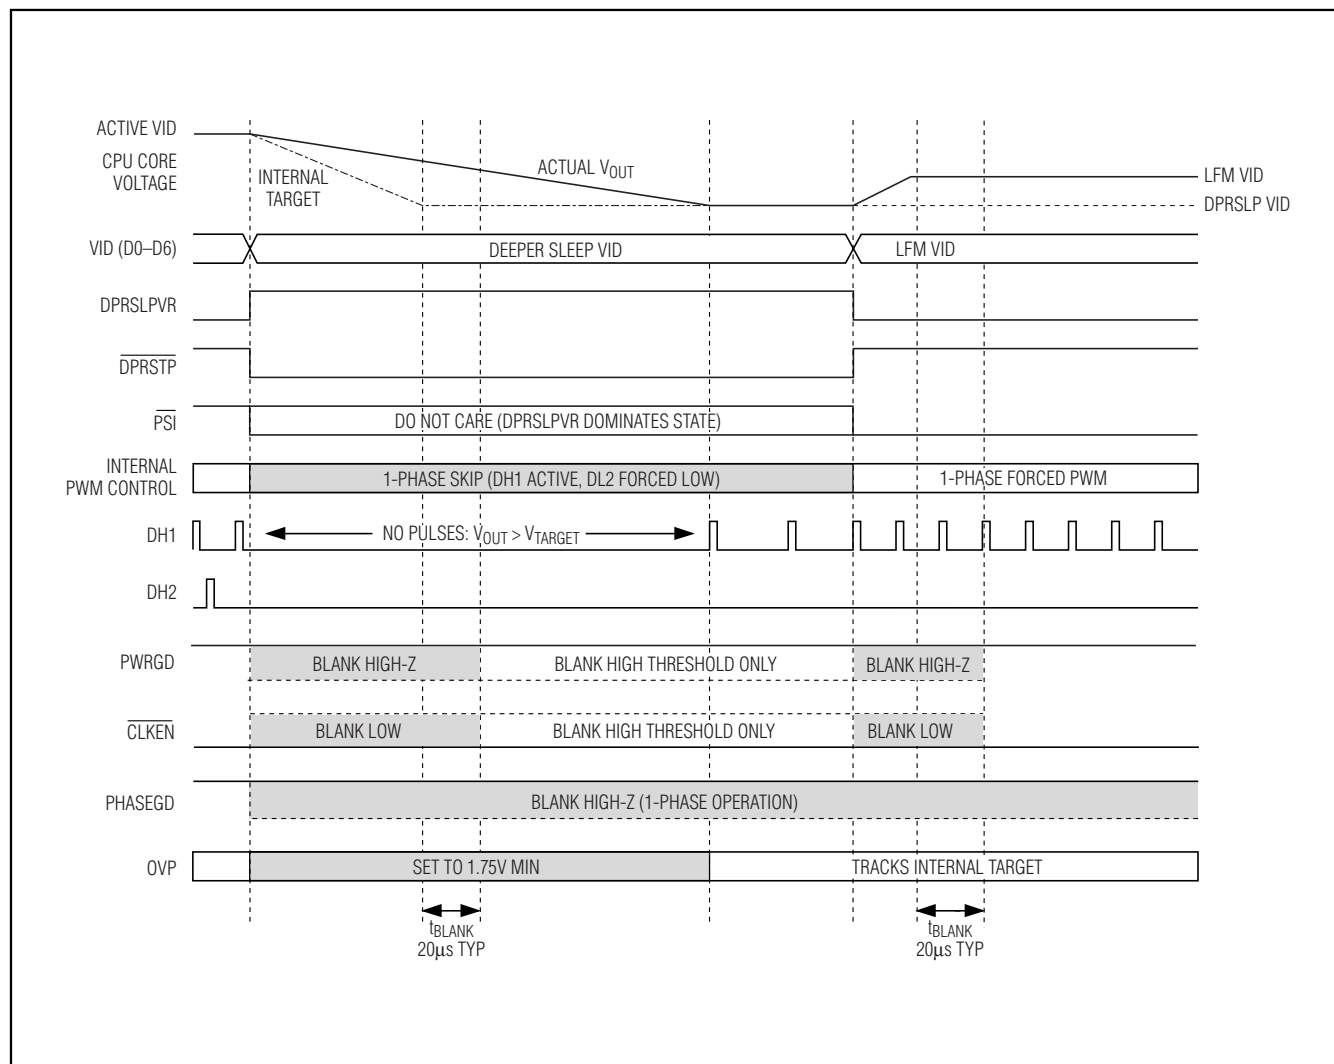

Figure 6. Slow C4 Transition
- Slow C4 Deeper Sleep Exit:** When exiting deeper sleep (DPRSLPVR high, $\overline{DPRSTP}$ pulled high) while the output voltage is regulating to the deeper sleep voltage, the MAX8770/MAX8771/MAX8772 remain in 1-phase skip mode and ramp the output voltage to the LFM DAC code provided by the processor at 1/4 the slew-rate set by R_{TIME} . The controller blanks PWRGD, PHASEGD, and $\overline{CLKEN}$ (forced high impedance) until $20\mu s$ after the transition is completed. See Figure 6.